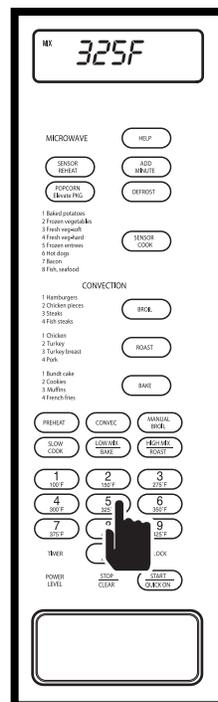

Figure 3-92. Enter Cooking Time
4. Enter desired cooking time. Press the number 2 key, number 6 key, and number 0 key twice, "25.00 - PRESS - START" will flash on display. (See Figure 3-92)